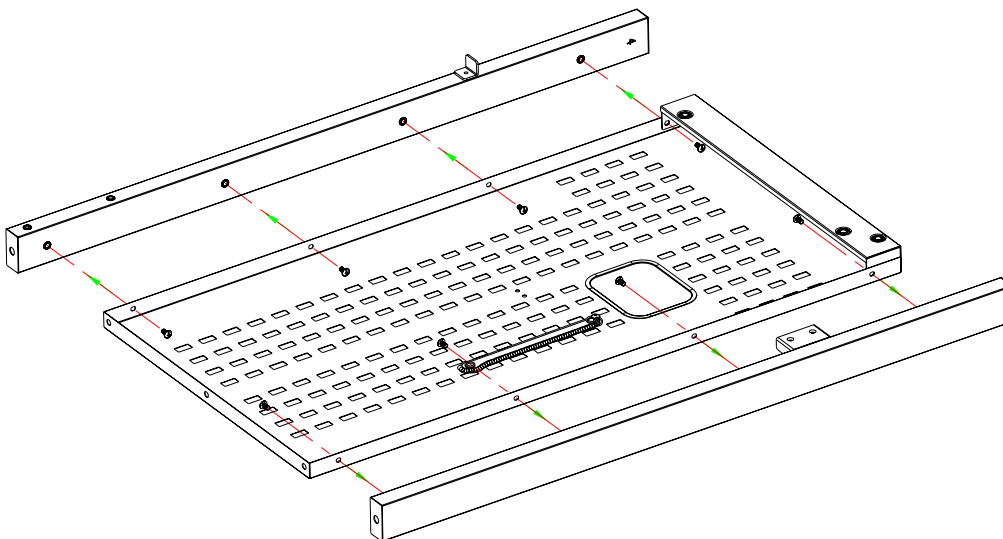

Fig.3
1. To attach right panel, align right leg holes with holes on right panel (marked "R") as shown in Fig.3.
2. Attach right-front leg (marked "Right Front") and right-back leg (marked "Right Back") to right panel with eight (8) M5 x 10 screws as shown in Fig.3.